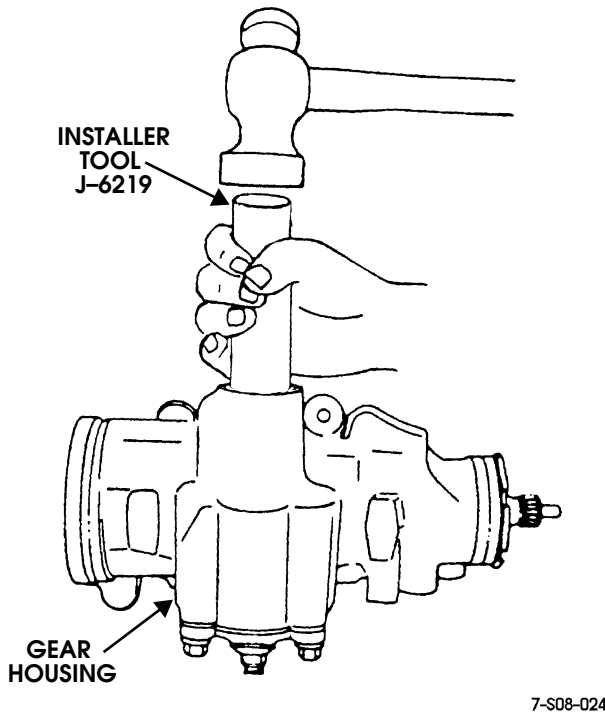

Figure 8-51: Pitman Shaft Seal Installation
3. Install single lip seal in housing with tool J-6219 (Figure 8-51). Be sure seal lip is toward gear housing.
4. Install backup washer on single lip seal (Figure 8-51).
5. Install double lip seal in housing with tool J-6219 (Figure 8-51). Be sure seal lip is toward gear housing.